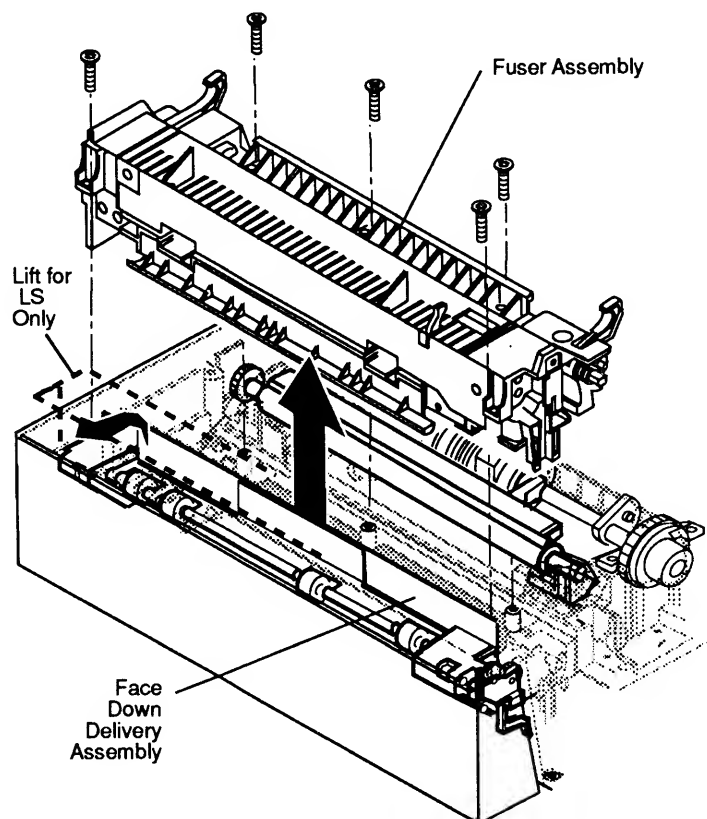

Figure 2-52 Fuser Assembly
2. Remove the five gold-colored screws that secure the fuser assembly to the front access door **(Figure 2-52)**. (On the LaserWriter LS, you will need to lift up the face-down delivery assembly to reach the fifth screw.)
3. Lift the fuser assembly straight up and remove it from the printer **(Figure 2-52)**.